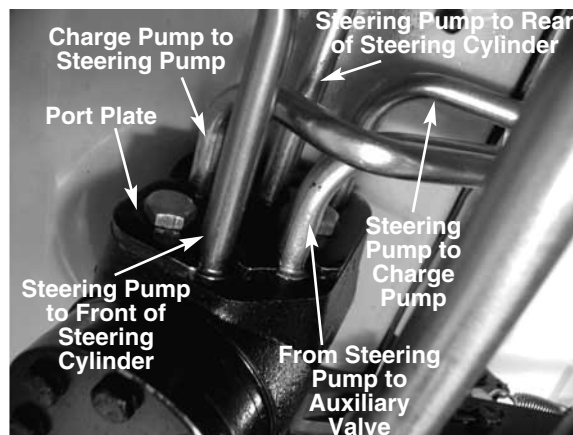

FIGURE 4.
7. Write down the exact locations of all the hydraulic tubes. See figure 4.